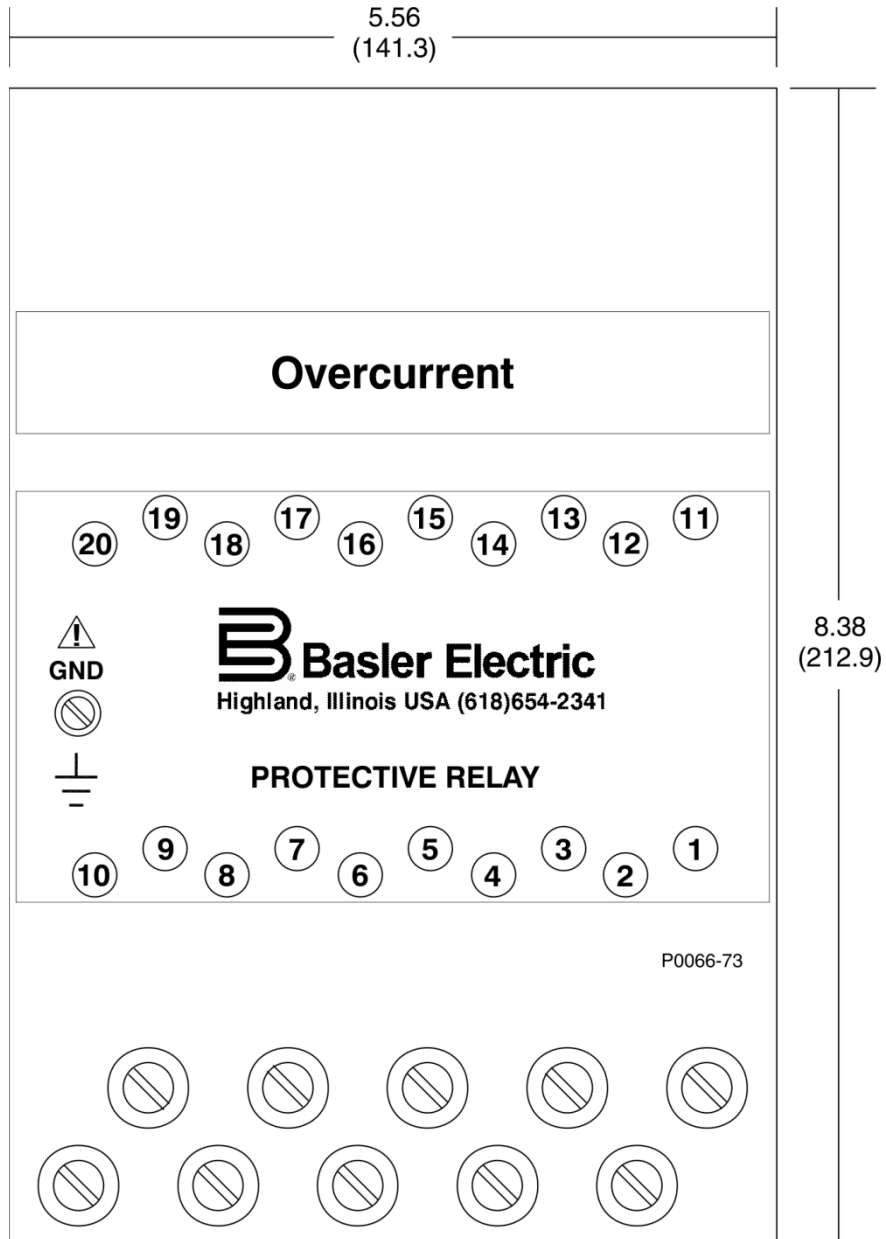

Figure 4-4. S1 Case Dimensions, Rear View, Single Ended, Semi-Flush Mount
- Figure 4-4: S1 Case Dimensions, Rear View, Single Ended, Semi-Flush Mount